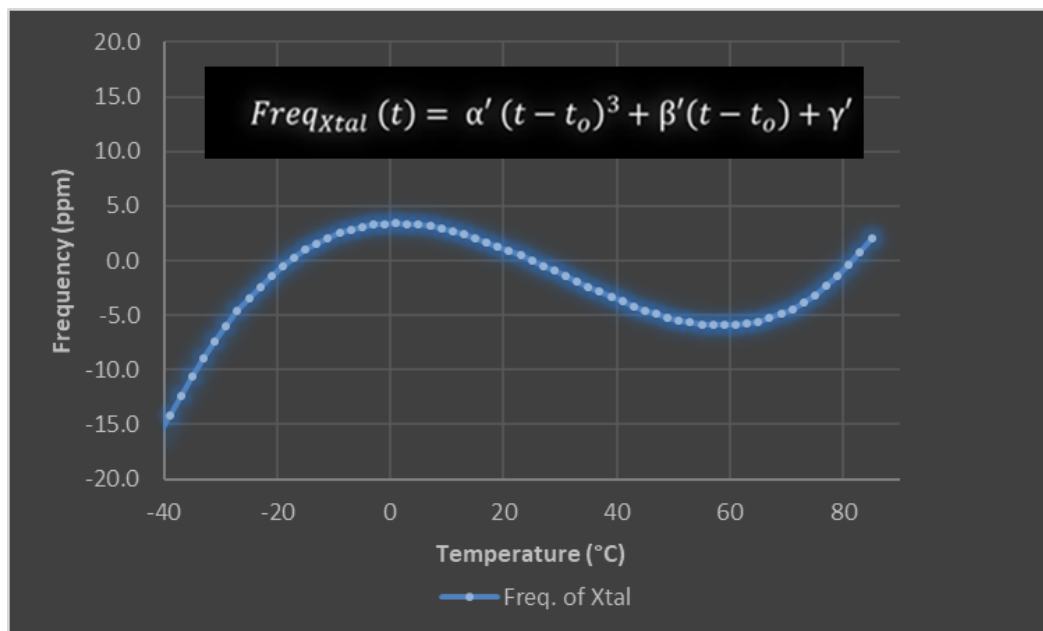

Fig. 1: Frequency / Temperature curve of an AT-cut quartz blank as it's used in many XOs
Under extreme temperature conditions, frequency deviations of up to +/- 100 ppm maximum occur with a normal quartz oscillator (XO) given that higher degree polynomial coefficients are more apparent in the extreme temperature ranges. The frequency stability of normal XOs, as it is illustrated in Figure 1 above, is completely sufficient for numerous applications. However, there are many others as for example wireless- or GPS-applications that make significantly higher demands, that can merely be met by TCXOs.